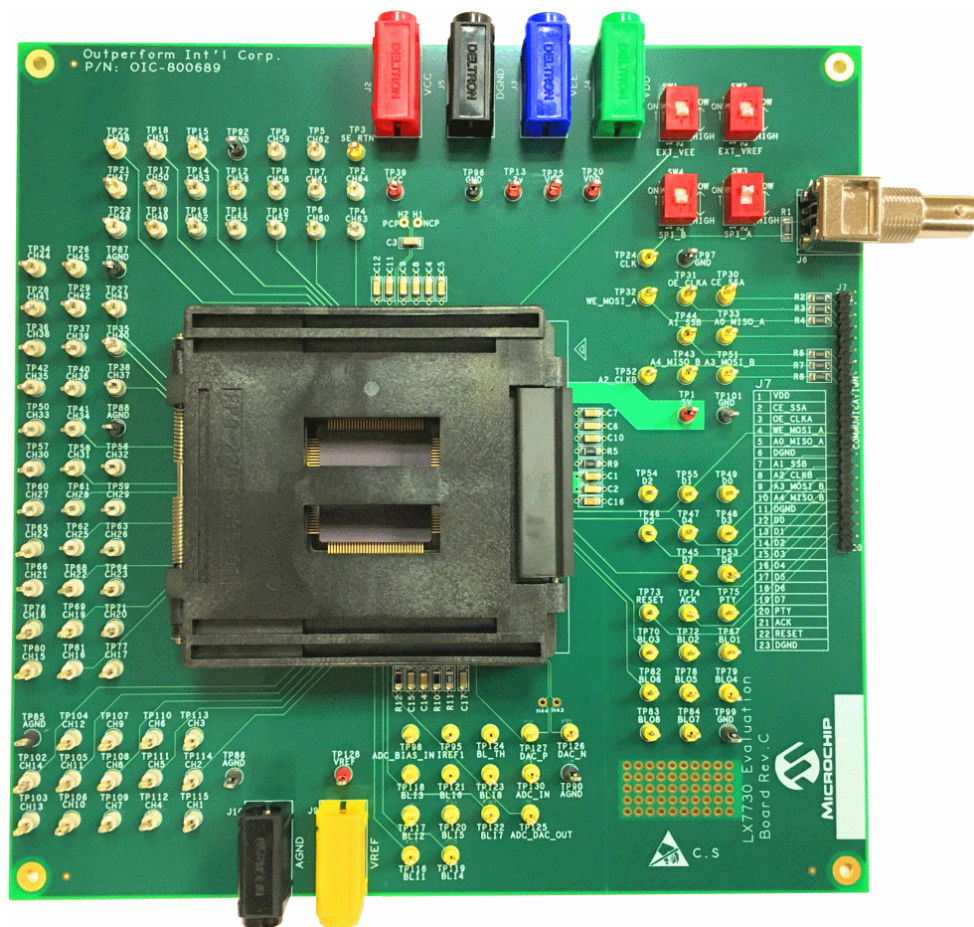

Figure 1. LX7730 Evaluation Board rev. C
- Check that the red slide switch SW3 (bottom right) is up, and the remaining three switches down, as shown in the rev. B connection picture in Figure 1 on page 1. This configuration selects the SPI_A interface (used by the FTDI dongle), internal 5V VREF, and internal VEE supply